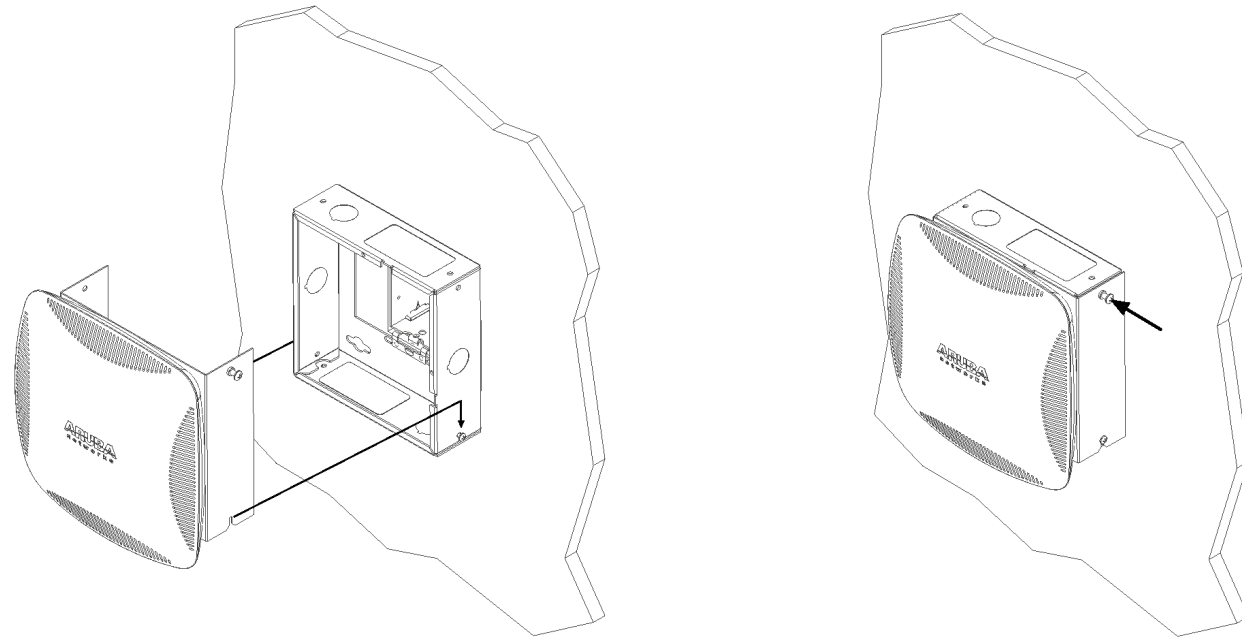

Figure 6
Step 3 - (Aruba and Cisco) Connect equipment cord between AP and data receptacle jack or surface mount box (if used). Place the cover/AP assembly over the base, so that slots in the cover are just above the height of the screws in the base. Lower the cover to allow the slots in the cover to engage the screws in the base. Next tighten the screws in the captive nuts on the cover so that they will protrude into the small obround holes in the side of the base. To complete the assembly, finish tightening the screws at the slotted end of the cover. (Ref. figure 6).